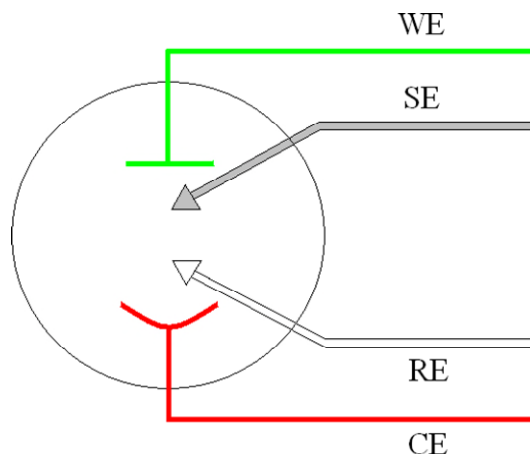

Figure 9. Four-Electrode Connection
c) There are some applications for which a four-terminal (Figure 9) connection is required. In this case, the sense electrode serves as a second reference electrode, useful for controlling the potential between the reference and sense (for instance, in controlling the potential across a membrane in a H-cell setup).